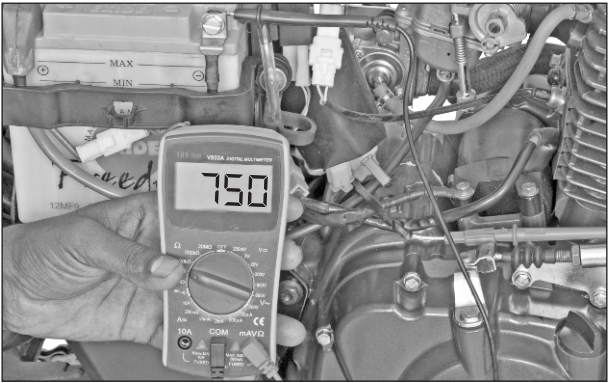

Fig. 5.29
• Connect pocket tester's '+ve' lead to the green white wire (GW) of gear position sensor and '-ve' lead to body earth. (Fig. 5.29)